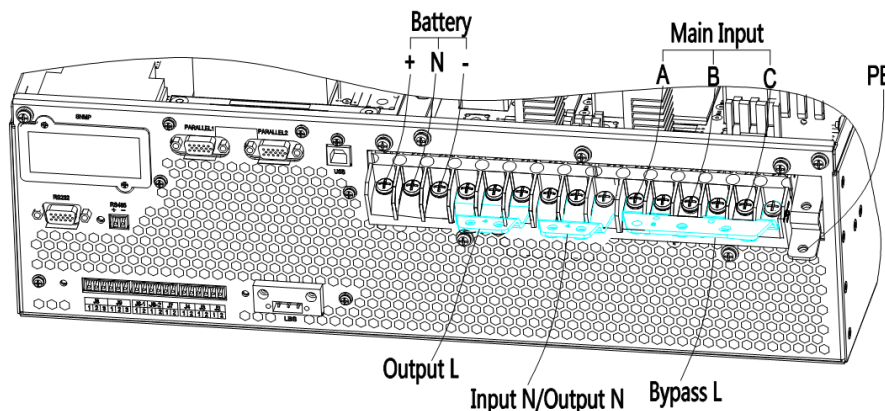

Figure 3-16 3-phase in and 1 phase out, common input
2.Short-circuit mA, bA, bB and bC with No.6 copper bar; short-circuit BATN oN, bN and mN with No.7 copper bar; short-circuit oA, oB, oC with No.4 copper bar .As shown in figure 3-16.